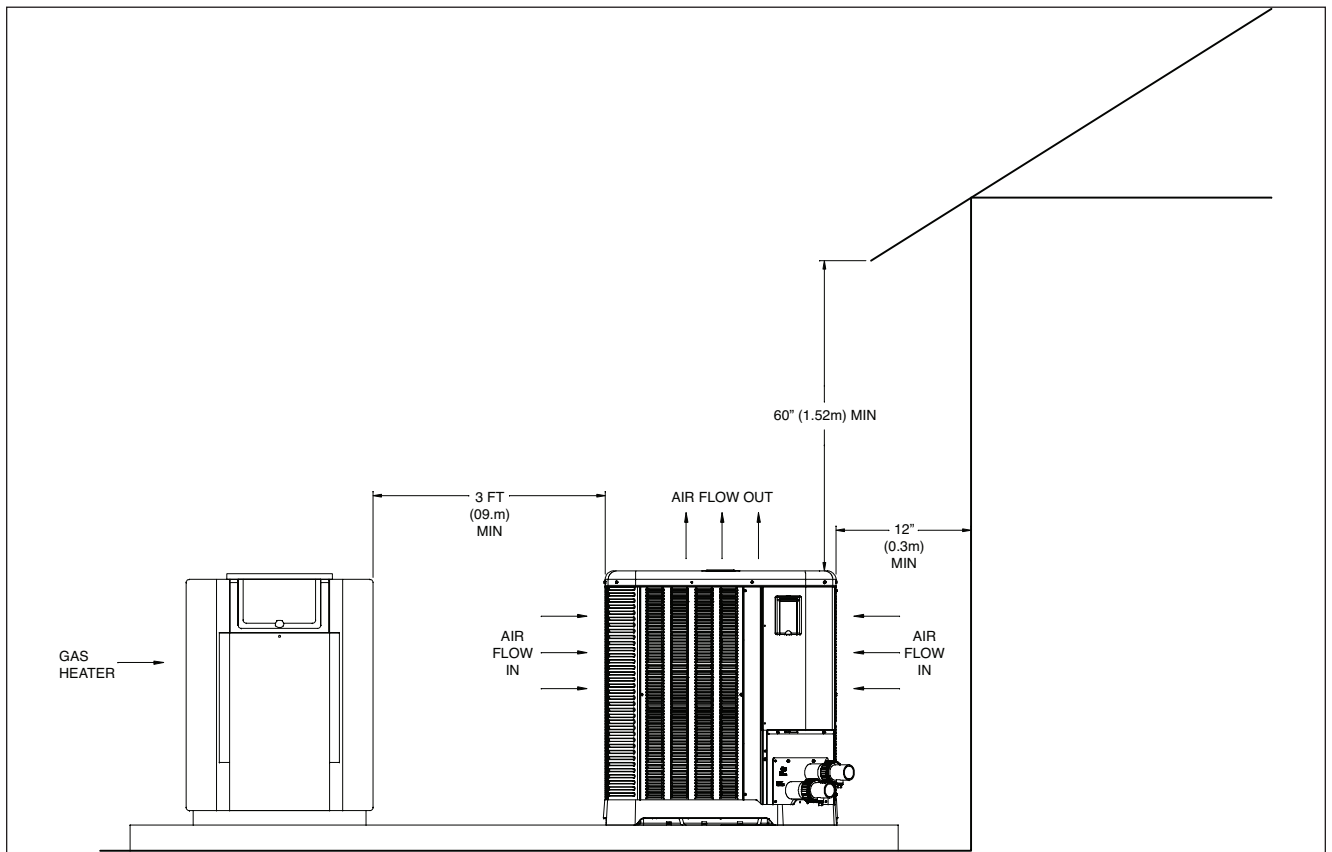

Fig. 1: Installation Clearances
- This unit features an 'up-flow' discharge for quiet operation. Air is pulled up through the evaporator coil and discharged through the top grille. Allow at least 5 ft (1.5 m) clearance above the unit for unrestricted air discharge. **DO NOT** install the unit under a porch or deck. Refer to Fig. 1. Recirculation of cold discharge air back into the evaporator coil will greatly reduce the unit's heating capacity and efficiency.